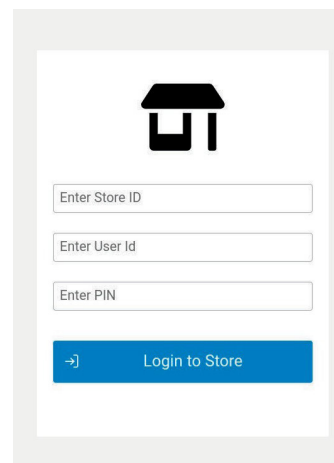

Figure 2
2. Use your CloudSent login information to log in (Figure 2).